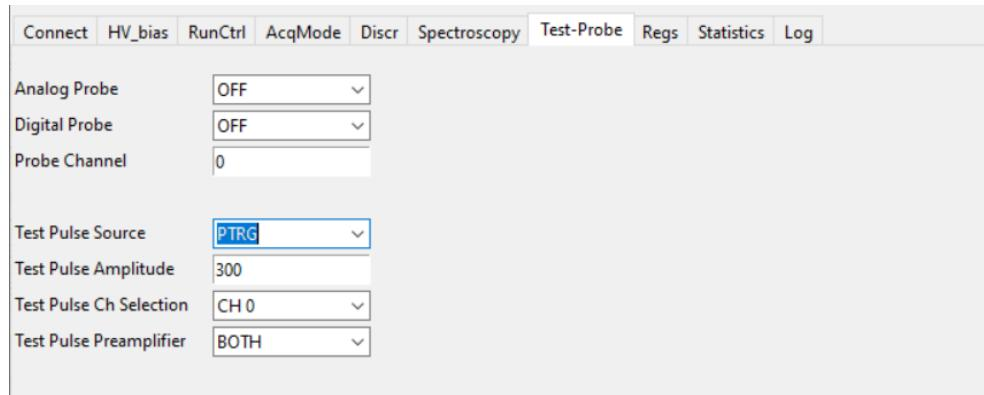

Fig. 10.19: Settings to test the board with the internal periodic pulser.
5. Select which Citroc-1A Preamplifiers (LG or HG) is used for the "Test Pulse Preamplifier" parameter. For the test described in this section the same settings as those in Fig. 10.19 are applied.